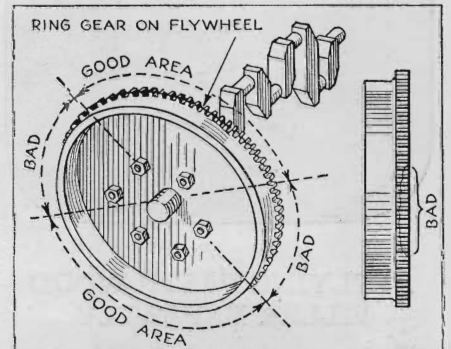

Fig. 5. This diagram shows how teeth wear on flywheel. Changing its position as shown brings unworn portion of its teeth into use
**O**N A four-cylinder motor, the effect of the compression is such that the motor almost invariably stops with the pistons about mid-point in their strokes. The result is that the teeth on two restricted portions of the flywheel gear take all the wear of the engaging starting pinion. In time, the teeth at these points become chewed away and the starter jams. The diagram in Fig. 5 shows how this works out. Note that plenty of good teeth are left on the flywheel. It is possible to remove the flywheel and bolt it in a new position sixty or 120 degrees from its previous location. This gives good teeth with which the starter pinion can engage, the worn teeth coming into action only after the pinion is all the way in. This operation will give you what practically amounts to a new flywheel.